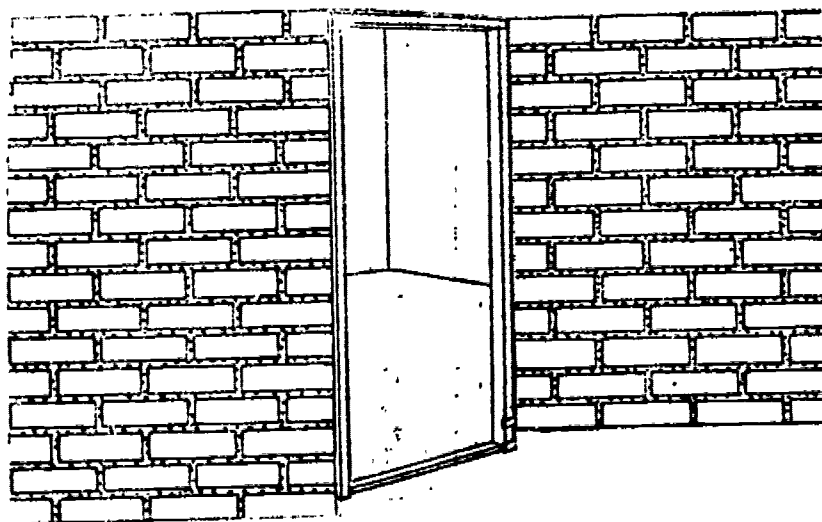

Figure 1
2. View figure 1 in this task package to observe the brick at the head of the door. It is not below the head, but is even or could be 1/4" above.